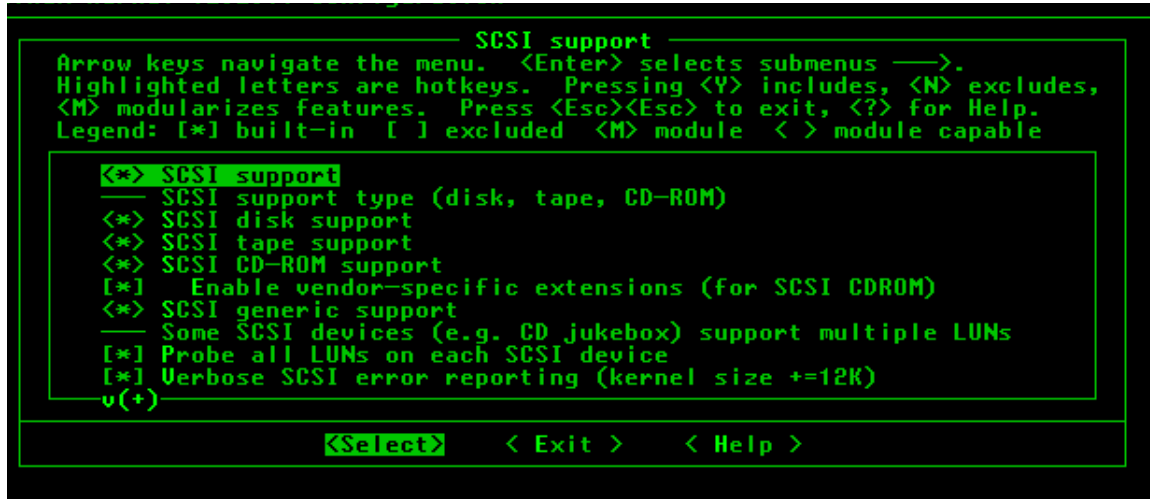
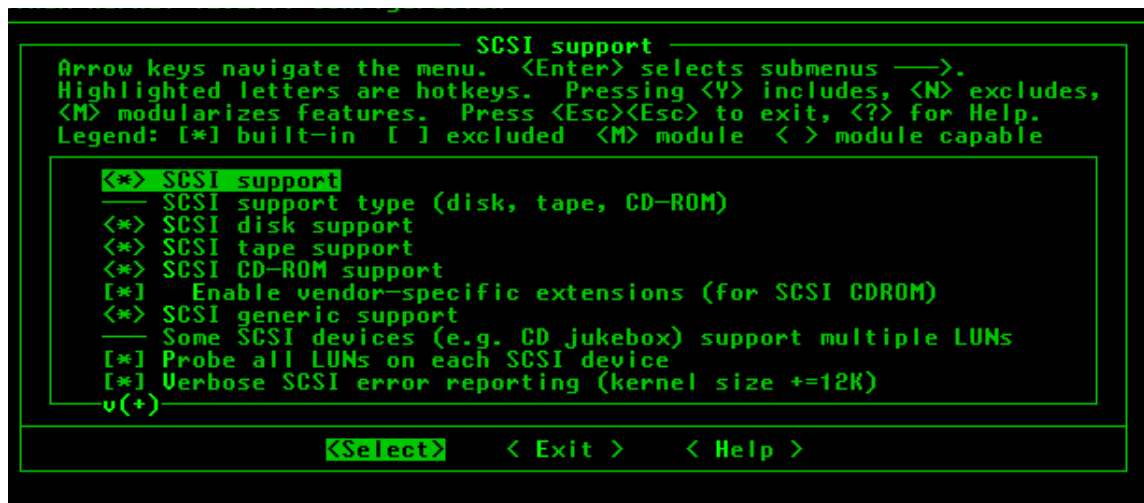

Figure 20-2 SCSI Support Menu
Figure 20-4 SCSI Support Menu
4. From the Main Menu, select the SCSI support menu. The menu shown in Figure 20-2 should appear.
In the SCSI support menu shown in Figure 20-2, make the following selections:
5. From the Main Menu, select the SCSI Support menu. The menu shown in Figure 20-4 and in Figure 20-2 should appear.
In the SCSI support menu shown in Figure 20-4, make the following selections: